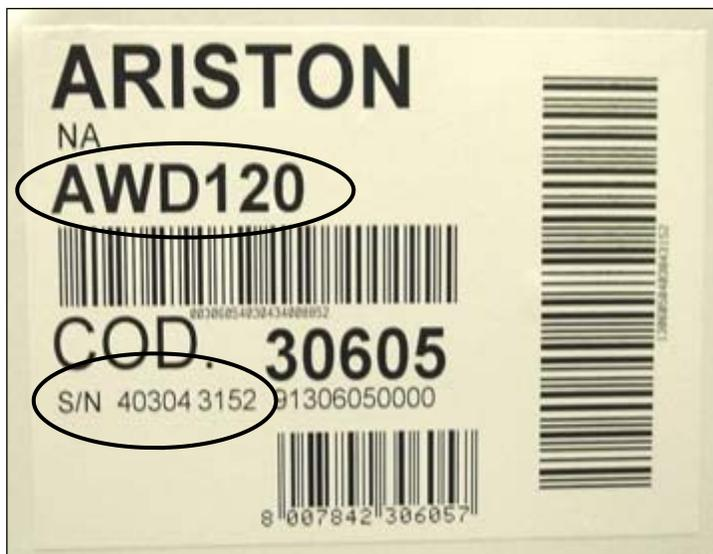

Fig. 1-3
- Model and Serial Number Tag located on the rear of the Appliance (Fig. 1-3).